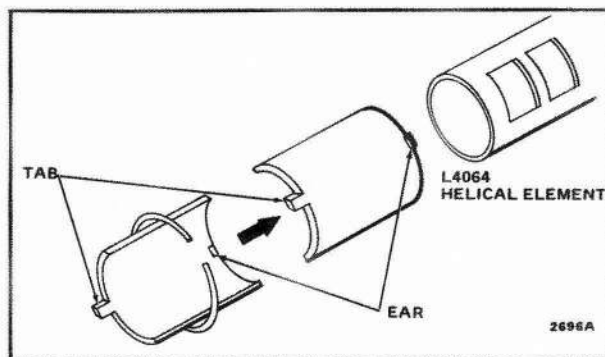

FIG. 5—USING TRADELINE ADAPTER.
1. Insert one-half of the split steel bushing through the wire ring (Fig. 5). It may be necessary to spread the ring slightly.